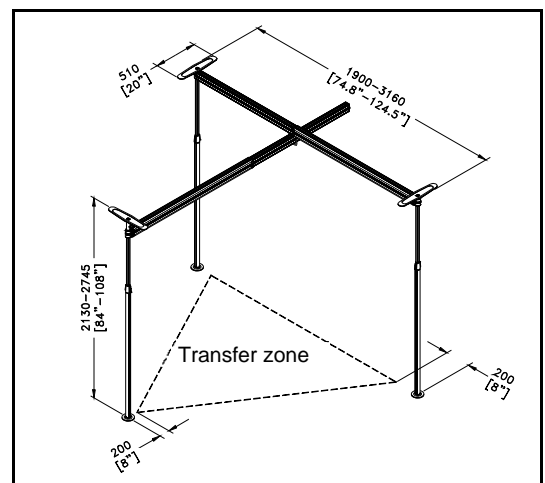

Figure 5
- ◆ Transfers should only take place between the Easytrack System posts (see Figure 5).